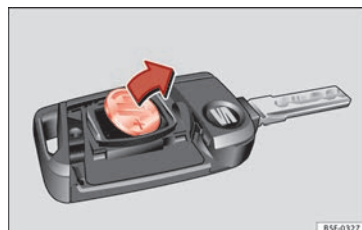

Fig. 133 Vehicle key: removing the battery
- Extract the battery from the compartment using a suitable thin object » Fig. 133.
- Place the new battery in the compartment as shown » Fig. 133, pressing in the opposite direction to that shown by the arrow » !.